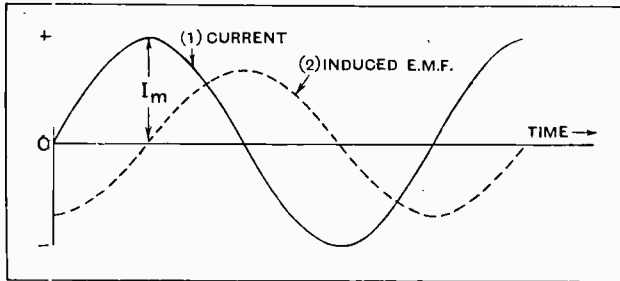

Fig. 2.—When a sine wave of current is passed through an inductive coil the induced E.M.F. is out of step by a quarter of a cycle, lagging behind the current.
a sine wave of current is passed through a coil of inductance L henrys, there will be an induced E.M.F. in the coil at all times except during the minute fraction of a second every half cycle when the current ceases to increase and begins to fall again. The sine wave of current is represented by curve (1) in Fig. 2 where I_m denotes the maximum or peak value, the "root mean square" (R.M.S.)¹ or effective value being, therefore, $I = 0.707I_m$.
this quarter cycle. Similarly, during the time that the current is receding towards the negative maximum value, the induced E.M.F. will be positive. Consequently, the sine wave of induced E.M.F. will be in the position shown by curve (2) in Fig. 2, that is to say, lagging by a quarter of a cycle behind the current wave, because it reaches its positive maximum value a quarter of a cycle later than the current.